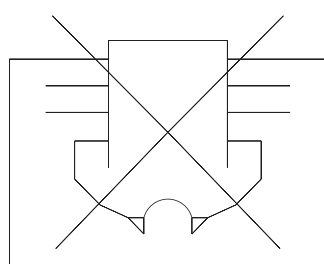

Figure 4
- During the operation, upper part of the convector (grille) shall not be covered due to possible overheating. Make sure that air flow is not disturbed (figure 4).